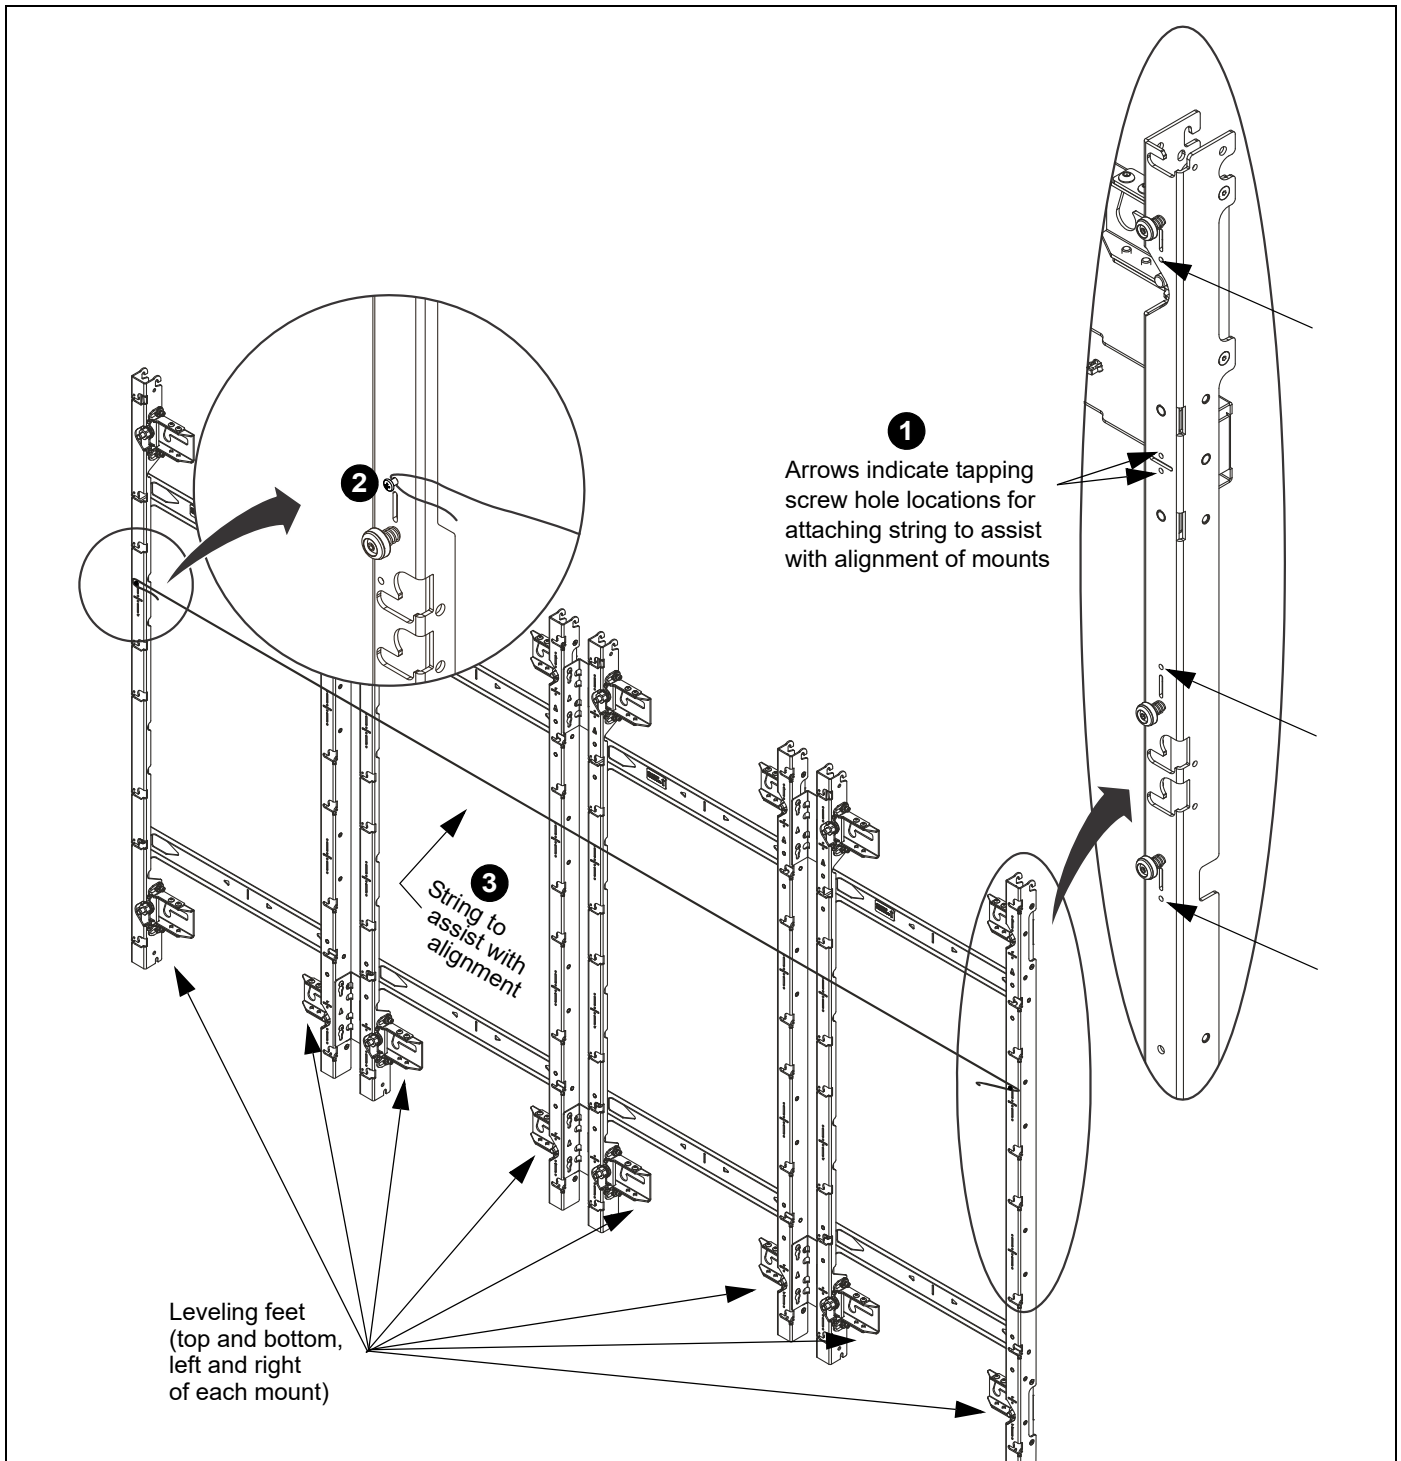

Figure 15
NOTE: There are multiple points on each mount where the screws can be installed for the plumb line. At a minimum, the plumb strings should be strung next to each adjustment point (at every leveling foot). (See Figure 15)
2. Loosely install the self-tapping screws then wrap the string around the screw and tighten. (See Figure 15)
3. Run the string tightly between the same hole at each end of the row of mounts. (See Figure 15)